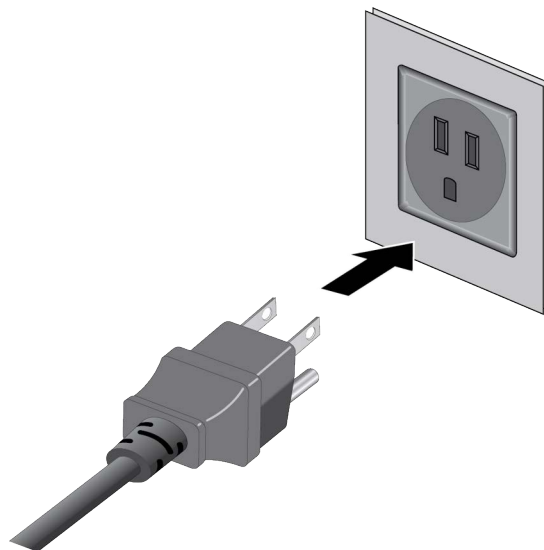

Figure 51. Connecting the Power Cord to an AC Power Source
4. Connect the power cord to an appropriate AC power source. Refer to Figure 51 on page 92.